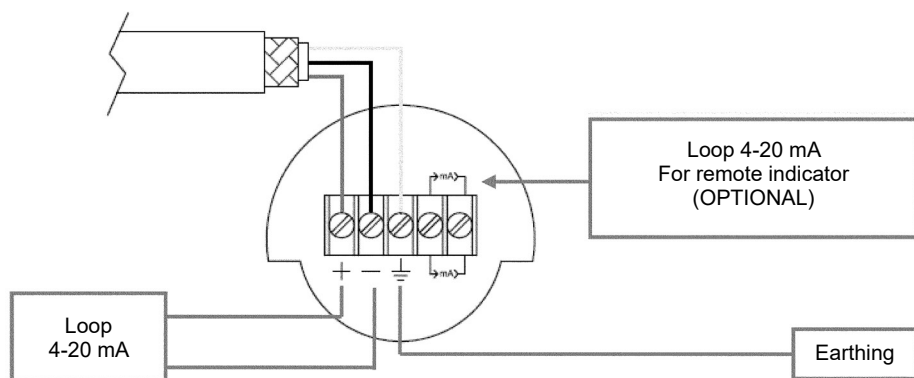

Fig. 9 - Electrical connection of the power cable to the terminal block
Under the rear cap is placed the terminal block reporting the electric polarity (Fig. 9). Insert the power supply cable into the enclosure through one of the two threaded openings. Transmitter is protected from accidental inversion of polarity. For a better use is recommended a twisted pair cable (22 AWG min). Avoid placing Transmitter near devices powered in AC or Switching. Connect ground-tap of the Transmitter to the local common earth (PE) as indicated in paragraph Earthing.
In the case where the plant devoid of earthing, it is necessary to connect the earth wire to the terminal block through the cable that carries the signal and the power supply (**Fig. 9**).